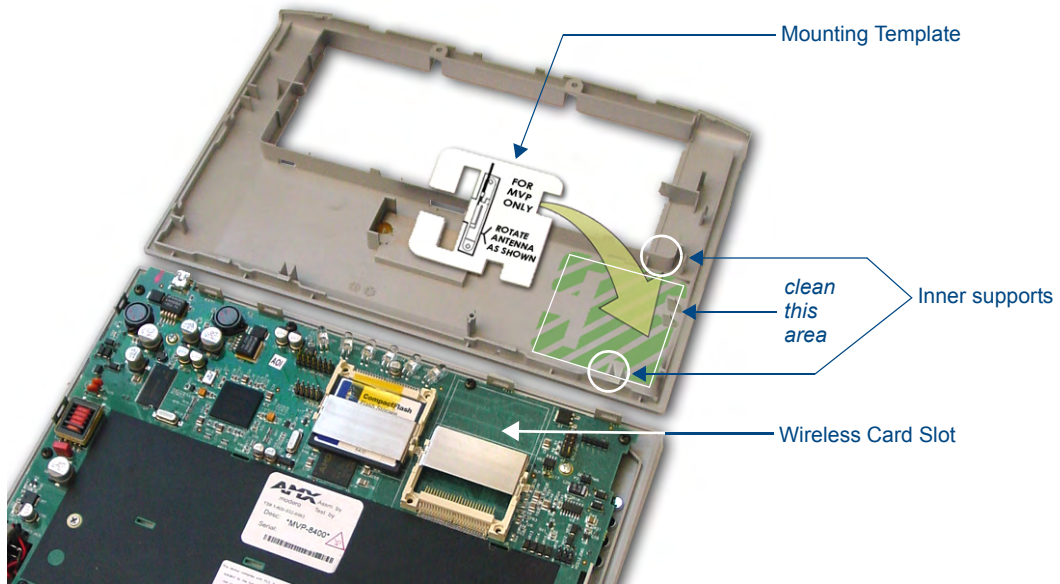

FIG. 10 Installing the Mounting Template
1. Flip over the MVP's rear housing so that the internal support structures are visible, and lay it directly in front of the circuit board such that the battery compartment is furthest away from you. This placement provides contact of both top rims (FIG. 10).
3. Place the included Mounting Template along the bottom right corner of the rear housing (FIG. 10). Use the housing's inner supports to position the template properly.